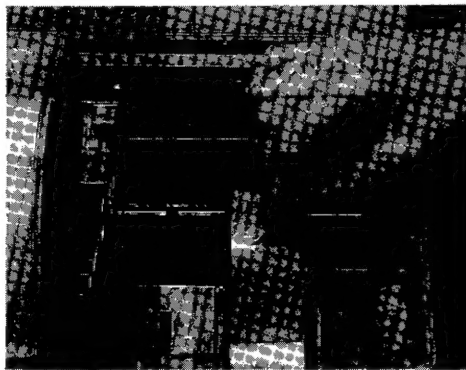

Fig 1-1.
1. Tear the paper between the unused portion of the roll and the paper inlet (Fig. 1-1).
3. Tear the paper between the unused portion of the roll and the paper inlet (Fig. 1-1).